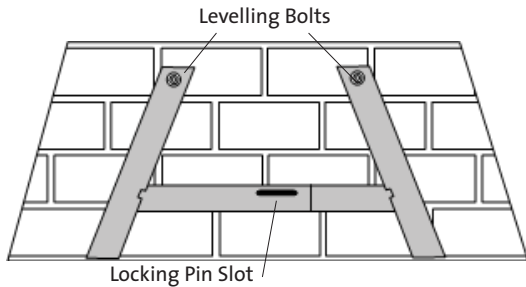

Figure 10. Riser Bar placement.
1. If appropriate to your installation (see pg. 8), position the riser bar centered within the fireplace as shown in fig. 10. The forward ends of the Riser Bar should be aligned within 1/2 inch of the fireplace face.
1. With the help of an assistant, slide the Firebox into the fireplace cavity. If using a Riser Bar, the Firebox must be engaged with the Riser by means of the Locking Pin included in the hardware bag. Pull the Left Blower forward out of the way to access the Locking Pin hole in the firebox floor. See figs. 10 and 11. When the front edge to the firebox is aligned with the front edge of the Riser, the Locking Pin hole will be aligned with the slot in the top of the Riser Bar crossmember. Insert the Locking Pin and pull the firebox out slightly proud of the fireplace face to facilitate attaching the surround panels. Relocate the blower.